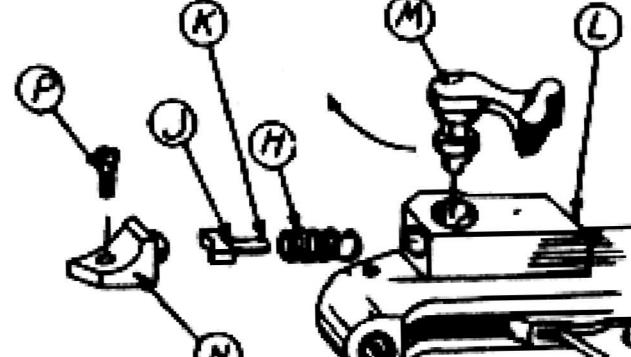

FIG.3.
7 PLACE THE SAFETY LOCK SPRING (H) ON SAFETY LOCK PLUNGER (I) AND INSERT THE UNIT INTO THE HOUSING. PUSH WITH SCREWDRIVER UNTIL END (K) IS PROTRUDING FROM END OF HOUSING AT POINT (L). HOLD END (K) WITH A PAIR OF PLIERS, THEN INSERT THE SAFETY LOCK (M) AS SHOWN IN FIG.3, AND TURN IT CLOCKWISE A HALF TURN. PLACE THE SAFETY LOCK HOLDER (N) INTO POSITION AND FASTEN IT WITH SAFETY LOCK HOLDER SCREW (P).